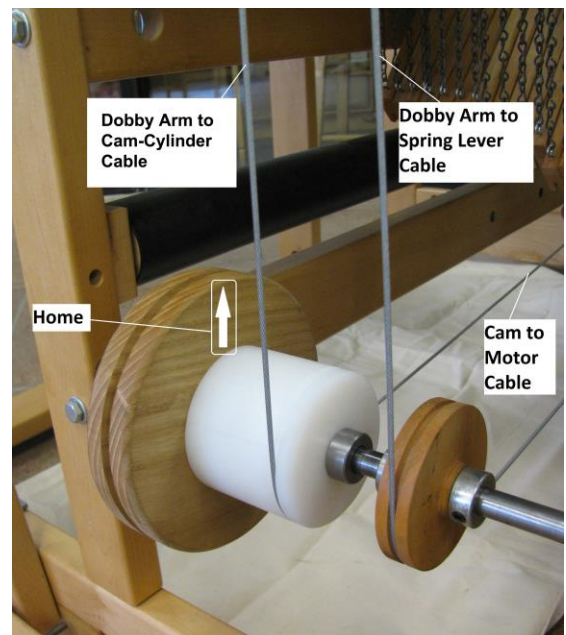

Fig 5 – Cables and Home
4) Unwrap the Dobby Arm to Cam-Cylinder Cable from the smaller diameter pulley side of the Cam-Cylinder. Route the cable around and under the Cylinder, as seen in Figure 5, then up the outside of the loom, to the Dobby Arm. Slip the crimp into the small hole on the underside of the Dobby Arm and out the other side. Attach the plastic retainer and pull the cable back into the arm.
Setting Home Position (See Fig. 5) Each time you power up your E-Lift you must set "Home" position. This adjustment is very important as it tells the E-Lift when the Dobby Arm is in the upper position, which is where it changes harness selection.
TIP: Many customers have found it advantageous to create a visual cue on the Cam to identify Home position. This enables you to more quickly and easily set it without having to look up to the dobbie. To begin, note the vertical arrow on the Cam in Figure 5. It represents the Home marking. Now, set the Home position using the procedure above. Using a 2" strip of masking tape, apply the tape vertically at the 12 o'clock position on the rear of the Cam. Then draw a vertical arrow on the tape pointing to 12 o'clock.